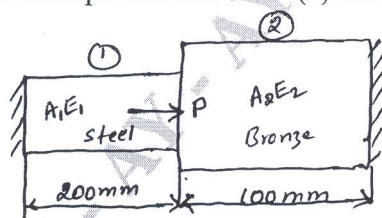

Fig.Q10(b)
b. The structure consists of two bars an axial load $P = 200$ kN is loaded as shown in Fig.Q10(b). Determine: